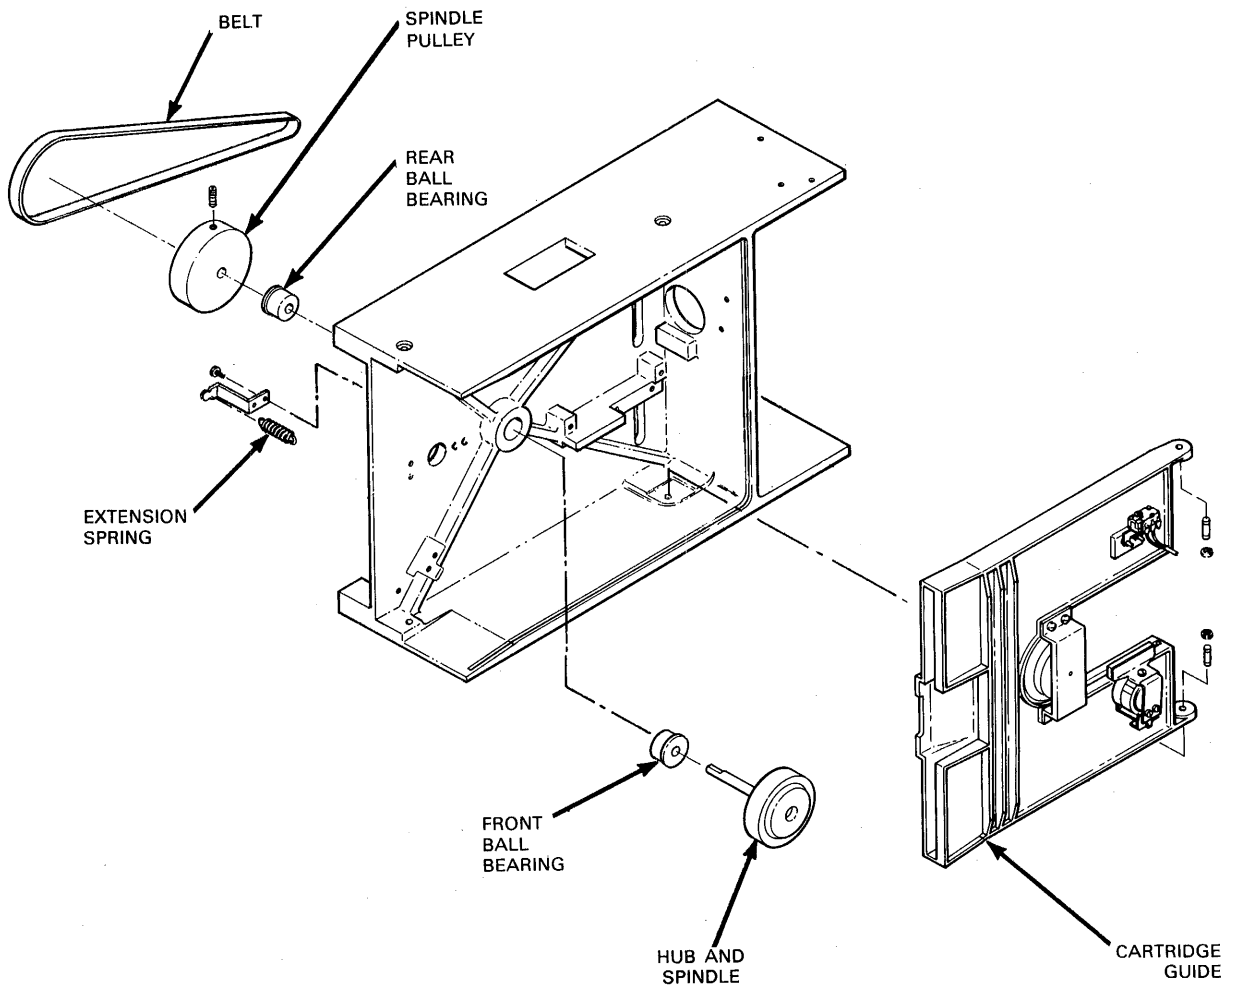

Figure 5-14. Hub and Spindle Assembly Removal and Replacement
1. Remove belt from pulleys (Figure 5-14).
1. Swing cartridge guide out on pivots (Figure 5-14).